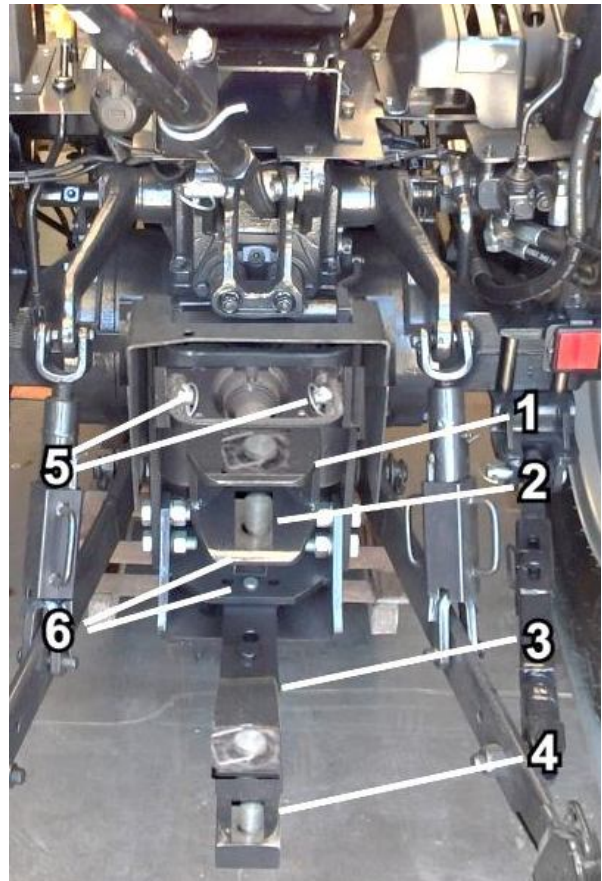

Fig. 4.6.2. Hitches
- shift the upper transport hitch to top position (2 - Fig. 4.6.2),
- remove the drawbar (3 - Fig. 4.6.2) after putting out pins (6 - Fig. 4.6.2),
- adjust the stabilizer bars for side swing (Fig. 4.6.2),
To lengthen or shorten the stabilizers set the pin (10 - Fig. 4.6.2).
Apart from the three-point hitch (Fig 4.6.2), the machines and implements can be attached to:
Upper transportation hitch (1 - Fig. 4.6.2) – is used for hitching a two-axle trailers. Secure the hitch attaching pin with a cotter. This hitch must be detached when attaching implements to the three-point hitch. To disconnect the hitch move out pin (5 - Fig. 4.6.2)
Tractor drawbar (3 - Fig. 4.6.2) – is used for hitching trailed machines and implements.